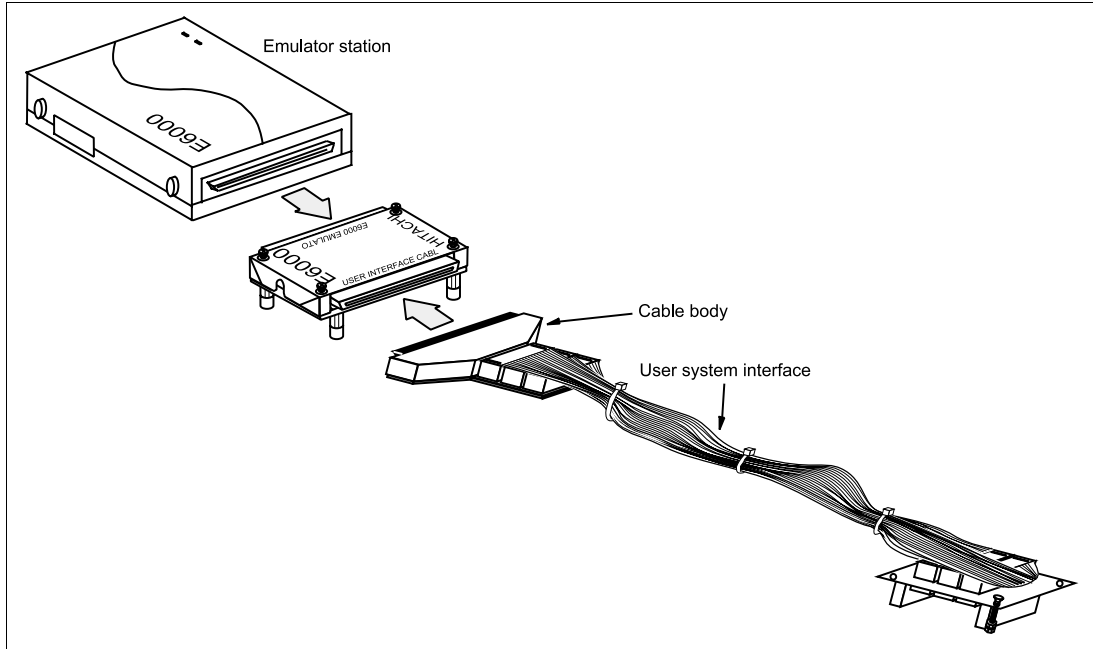

Figure 3 Connecting User System Interface Cable to Expansion I/O Board
2. After making sure the cable body connector is correctly aligned with the expansion I/O board connector (labeled as USER INTERFACE CABLE), firmly insert the cable body connector into the expansion board connector (figure 3).
Align pin 1 on the IC socket for an FP-100B or TFP-100B package on the user system with pin 1 on the user system interface cable head, and insert the user system interface cable head into the IC socket on the user system, as shown in figure 3.